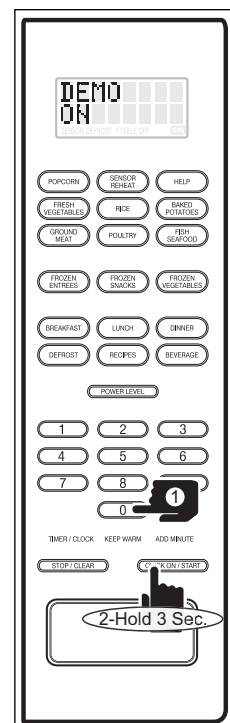

Figure 3-72.
2. Though not one of the options given on the display, Press and release the number 0 key, then press and hold the **QUICK ON/START** for three seconds. The display will flash “**DEMO ON - DURING DEMO - NO OVEN POWER**” the show a steady “**DEMO**” (See Figure 3-72). While in Demo Mode, any of the keys can be pressed and the display will show or flash the appropriate message. If the **QUICK ON/START** key is pressed, the microwave oven will function in all respects except that microwave cooking components will not be energized and the timer on the display will abbreviate the count down from minutes to seconds.